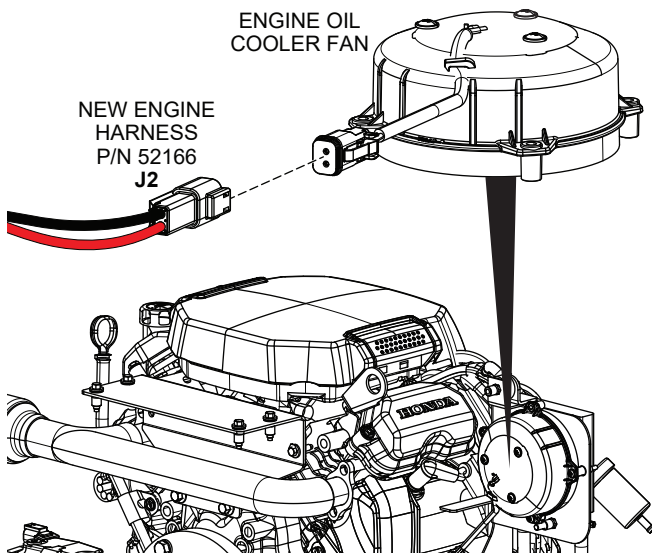

Figure 10. Connect New Engine Harness To Engine Oil Cooler Fan
8. Connect connector **J2** on the new engine harness (P/N 52166) to the engine oil cooler fan as shown in Figure 10.